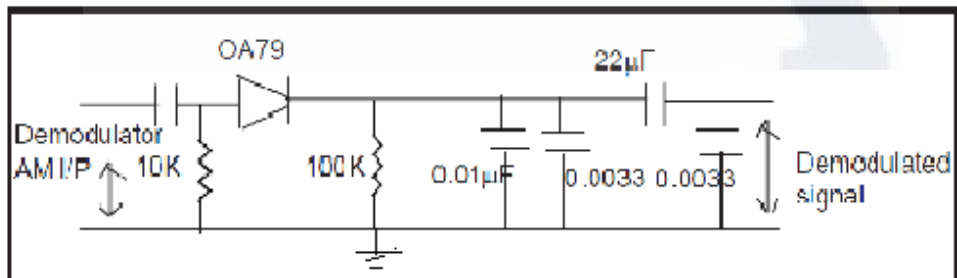

Fig 2: CIRCUIT FOR AM DEMODULATOR
- 9. Connect the circuit diagram as shown in Fig.2.